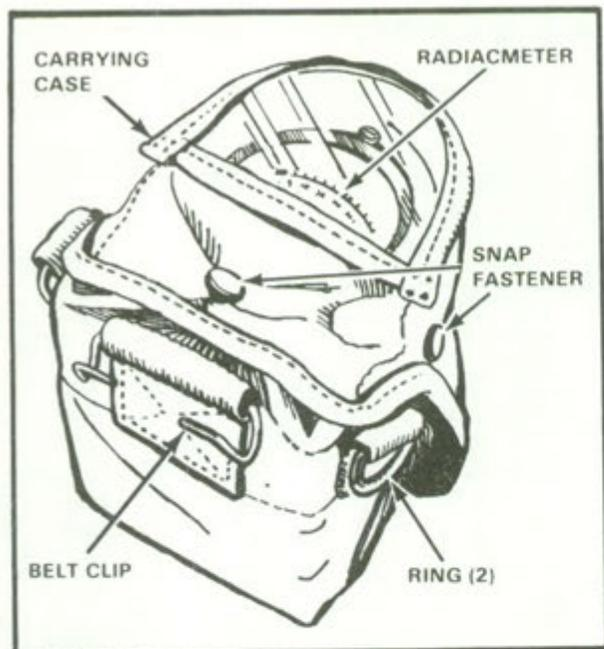
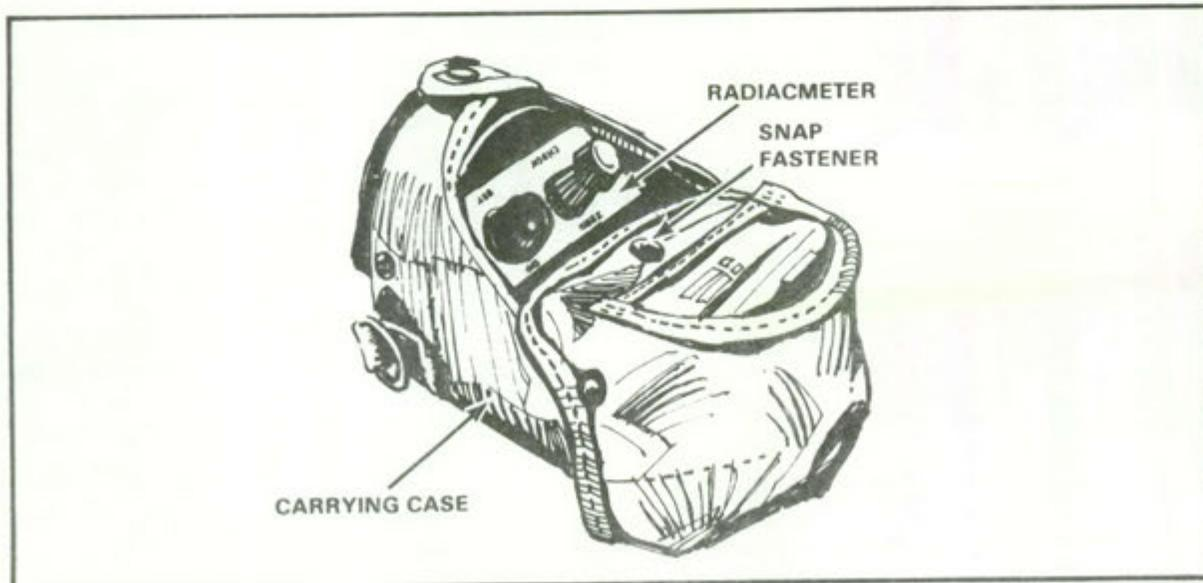

Figure 1. Radiacmeter in carrying case.
Figure 6. Radiacmeter (in carrying case) ready for operation.
- a. Unsnap the snap fasteners and remove the radiacmeter from the carrying case (figure 1).
- a. Unsnap the fasteners on the front and sides of the carrying case (figure 1). Push back the top part of the carrying case, and secure it to the carrying case snap fastener near the rear of the carrying case (figure 6).
(2) Push back the top part of the carrying case, and secure it to the carrying case snap fasteners near the rear of the radiacmeter (figure 6).